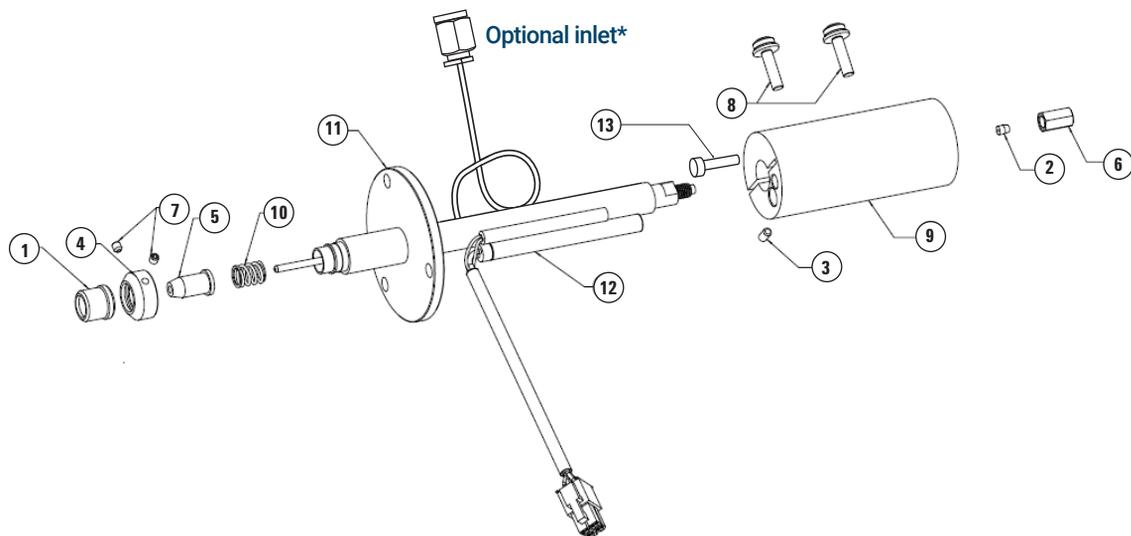

Figure 61. GC/MS interface for 7890
A list of the replacement parts related to the GC/MS interface for 8890 GC and an illustration of the parts is also provided. (See **Table 21** and **Figure 61** on page 209.)
**Table 21 GC/MS interface for 8890 GC (Figure 61 on page 209)**